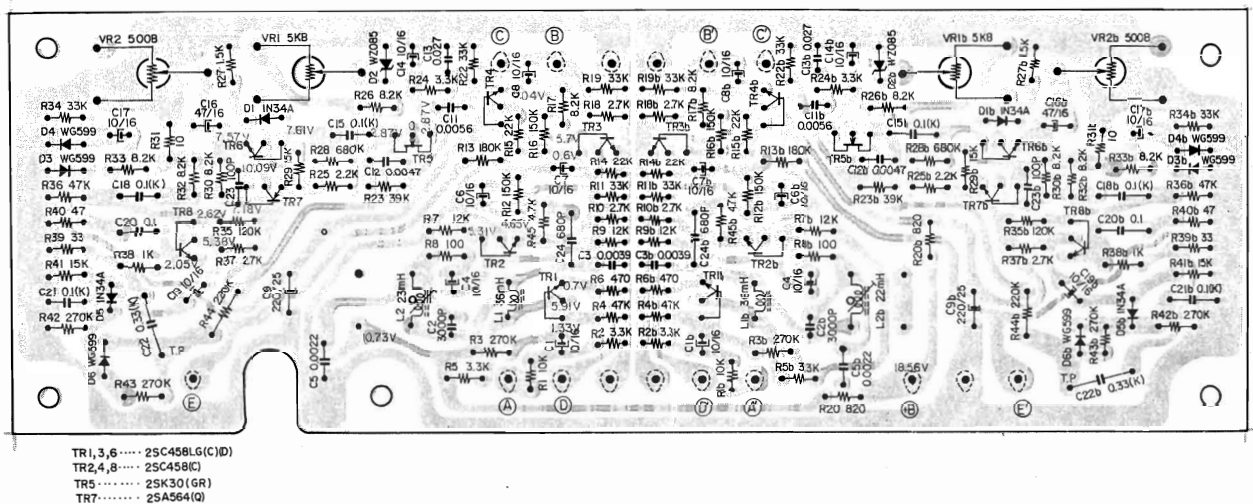

Fig. 31 DOLBY AMP. P.C. BOARD CG-5202 (Reverse Side)
- c) Turn Dolby Switch SW5 to OFF position and, as shown in Fig. 31, ground Test Point "TP" (FET GATE).